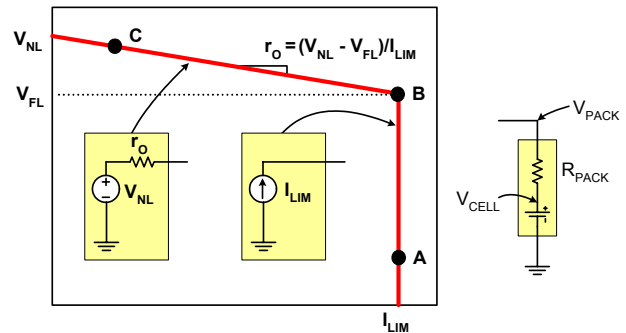
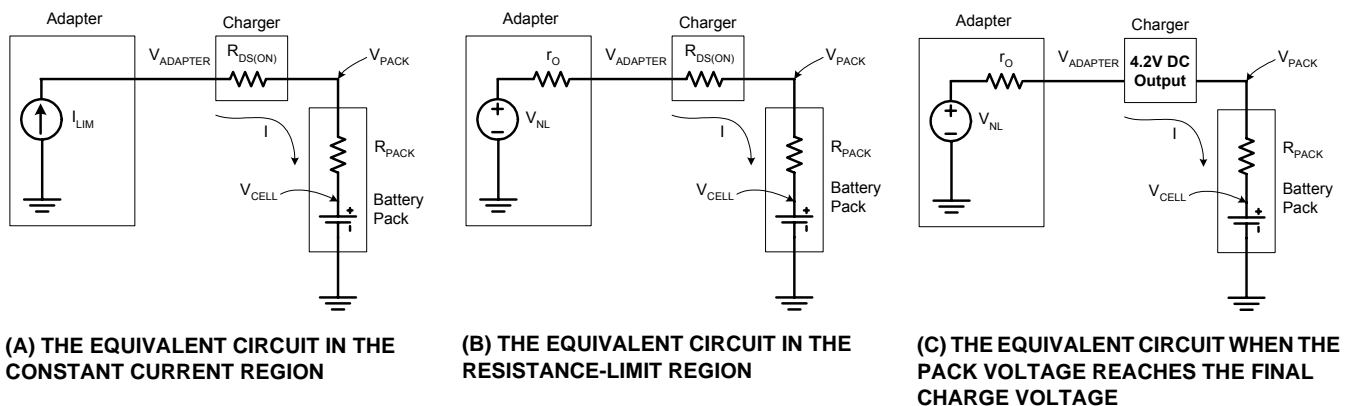
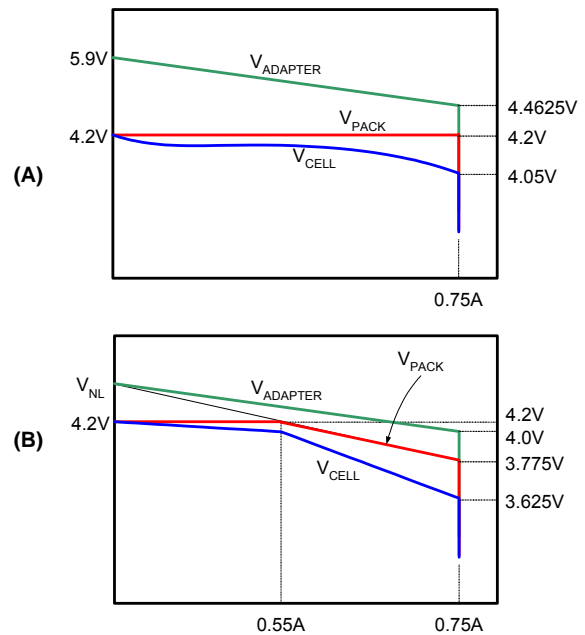
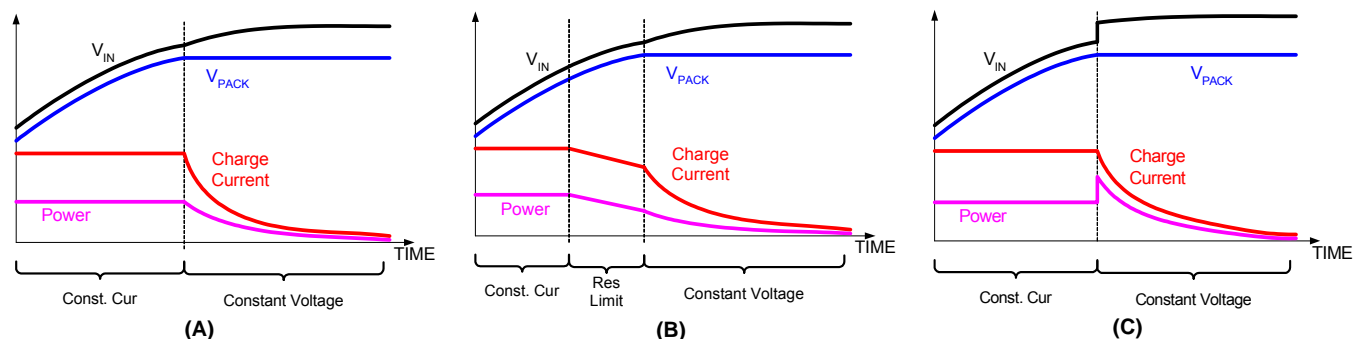

FIGURE 24. THE IDEAL I-V CHARACTERISTICS OF A CURRENT LIMITED ADAPTER
FIGURE 25. THE EQUIVALENT CIRCUIT OF THE CHARGEING SYSTEM WORKING WITH CURRENT LIMITED ADAPTERS
FIGURE 26. THE I-V CHARACTERISTICS OF THE CHARGER WITH DIFFERENT CURRENT LIMITED ADAPTERS
FIGURE 27. THE OPERATING CURVES WITH THREE DIFFERENT CURRENT LIMITED ADAPTERS
Figure 24 shows the ideal current-voltage characteristics of a current-limited adapter. V_{NL} is the no-load adapter output voltage and V_{FL} is the full load voltage at the current limit I_{LIM} . Before its output current reaches the limit I_{LIM} , the adapter presents the characteristics of a voltage source. The slope r_O represents the output resistance of the voltage supply. For a well regulated supply, the output resistance can be very small, but some adapters naturally have a certain amount of output resistance.
current-voltage characteristics curve, such as point A, to higher voltage until reaching the breaking point B, as shown in Figure 24.
The adapter is equivalent to a voltage source with output resistance when running in the constant-voltage region; because of this characteristic. As the charge current drops, the adapter output moves from point B to point C, shown in Figure 24.
The battery pack can be approximated as an ideal cell with a lumped-sum resistance in series, also shown in Figure 24. The ISL6292 charger sits between the adapter and the battery.
As described earlier, the ISL6292 minimizes the thermal dissipation when running off a current-limited ac adapter, as shown in Figure 18. The thermal dissipation can be further reduced when the adapter is properly designed. The following demonstrates that the thermal dissipation can be minimized if the adapter output reaches the full-load output voltage (point B in Figure 24) before the battery pack voltage reaches the final charge voltage (4.1V or 4.2V). The assumptions for the following discussion are: the adapter current limit = 750mA, the battery pack equivalent resistance = 200mΩ, and the charger ON resistance is 350mΩ.
When charging in the constant-current region, the pass element in the charger is fully turned on. The charger is equivalent to the on-resistance of the internal P-channel MOSFET. The entire charging system is equivalent to the circuit shown in Figure 25 (A). The charge current is the constant current limit I_{LIM} , and the adapter output voltage can be easily found out as,
A critical condition of the adapter design is that the adapter output reaches point B in Figure 24 at the same time as the battery pack voltage reaches the final charge voltage (4.1V or 4.2V), that is:
When the above condition is true, the charger enters the constant-voltage mode simultaneously as the adapter exits the current-limit mode. The equivalent charging system is shown in Figure 25 (C). Since the charge current drops at a higher rate in the constant-voltage mode than the increase rate of the adapter voltage, the power dissipation decreases as the charge current decreases. Therefore, the worst case thermal dissipation occurs in the constant-current charge mode. Figure 26 (A) shows the I-V curves of the adapter output, the battery pack voltage and the cell voltage during the charge. The 5.9V no-load voltage is just an example value higher than the full-load voltage. The cell voltage 4.05V uses the assumption that the pack resistance is 200mΩ. Figure 27 (A) illustrates the adapter voltage, battery pack voltage, the charge current and the power dissipation in the charger respectively in the time domain.
If the battery pack voltage reaches 4.2V (or 4.1V) before the adapter reaches point B in Figure 24, a voltage step is expected at the adapter output when the pack voltage reaches the final charge voltage. As a result, the charger power dissipation is also expected to have a step rise. This case is shown in Figure 18 as well as Figure 27 (C). Under this condition, the worst case thermal dissipation in the charger happens when the charger enters the constant voltage mode.
is shown in Figure 25(B). Eventually, the battery pack voltage will reach 4.2V (or 4.1V) because the adapter no-load voltage is higher than 4.2V (or 4.1V), then Figure 25(C) becomes the equivalent circuit until charging ends. In this case, the worst-case thermal dissipation also occurs in the constant-current charge mode. Figure 26 (B) shows the I-V curves of the adapter output, the battery pack voltage and the cell voltage for the case $V_{FL} = 4V$. In the case, the full-load voltage is lower than the final charge voltage (4.2V), but the charger is still able to fully charge the battery as long as the no-load voltage is above 4.2V. Figure 27 (B) illustrates the adapter voltage, battery pack voltage, the charge current and the power dissipation in the charger respectively in the time domain.
Figure 29 shows the actual captured waveforms depicted in Figure 27 (C). The constant charge current is 750mA. A step in the adapter voltage during the transition from CC mode to CV mode is demonstrated.